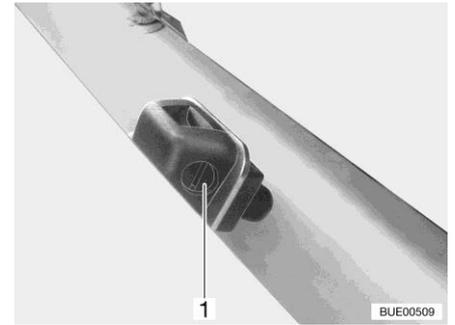

Fig. 51 Washer nozzles (variant 2)
- Use a suitable screwdriver to turn the adjusting screw (Fig. 51,1) until you reach the desired position.